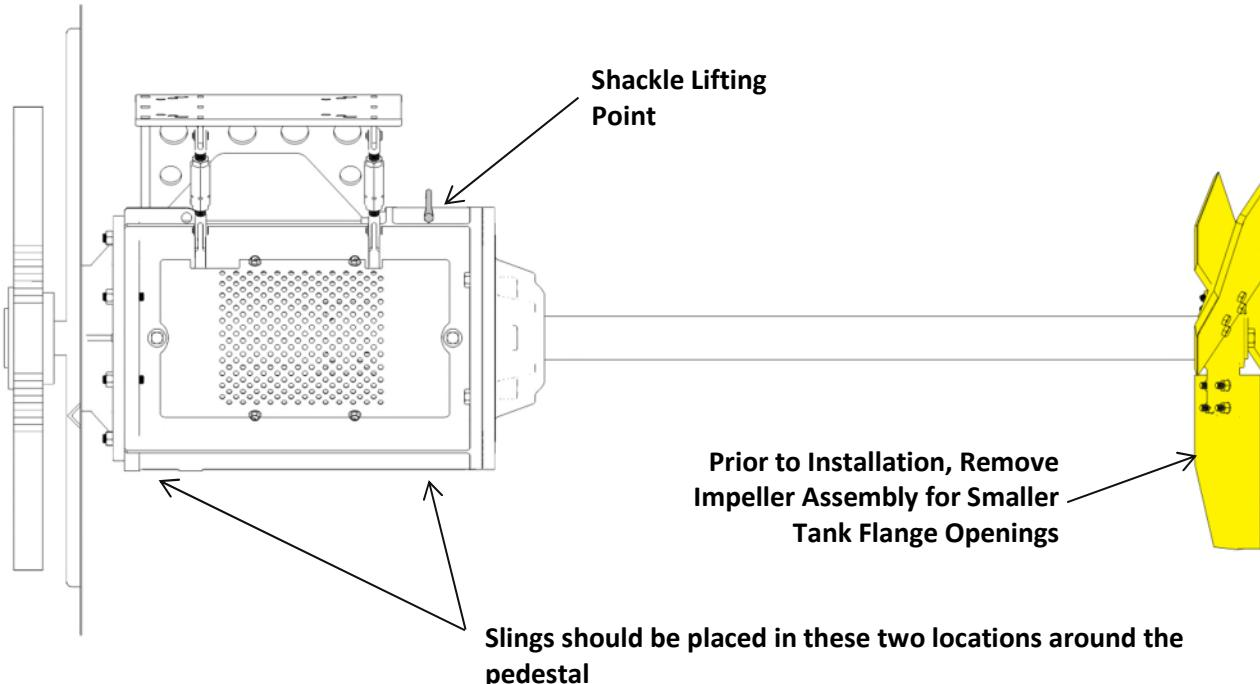

Figure 5: Fixed Agitator Lifting Points
2. Lift the agitator with the provided lifting points as shown in **Figure 5**. Stabilize the load as needed by either removing the motor or belt guard, or by adjusting the lifting point or strap lengths to help align the shaft horizontal with the ground during mounting.